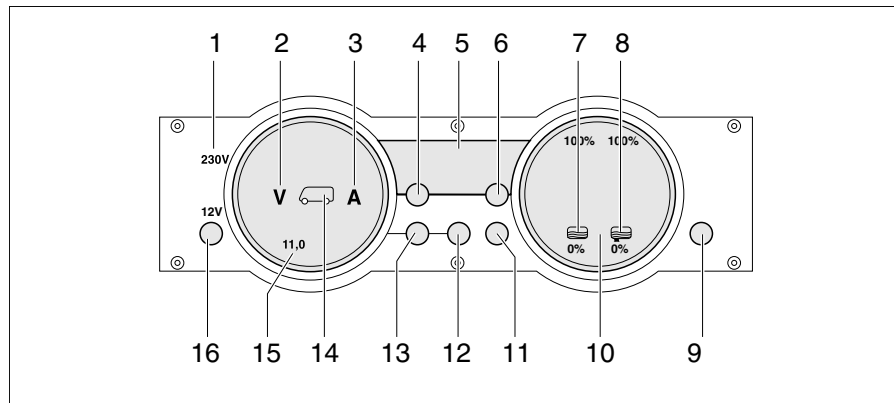

Fig. 260 Panel MP 20-S
The 230 V indicator lamp (Fig. 260,1) lights up whenever line voltage is available at the transformer/rectifier input.
The 12 V main switch (Fig. 260,16) switches the panel and the 12 V power supply of the living area on and off.
- Briefly press the "12 V" button (Fig. 260,16). The 12 V living area power supply is switched on. The "12 V" indicator lights up.
- ▷ If, after switching on, the "11.0" LED of the volt indicator and the "V" volt symbol (Fig. 260,2) in the batteries gauge (Fig. 260,15) flash, the voltage of the living area battery is too low. Charge battery.
- ▷ If, after switching on, the "12 V" indicator, the symbol for the living area battery (Fig. 260,14) and the "V" volt symbol (Fig. 260,2) flash three times, battery separation is activated. Deactivate battery separation.
- Briefly press the "12 V" button (Fig. 260,16). The 12 V living area power supply is switched off. The "12 V" indicator goes out.
- Press button for living area battery (Fig. 260,12) and hold it down for approx. 10 seconds. The "V" volt (Fig. 260,2) and "A" ampere (Fig. 260,3) symbols flash three times. The living area battery is disconnected from the 12 V power supply.
- Press the "12 V" button (Fig. 260,16) and hold it down for approx. 5 seconds. The "V" volt symbol (Fig. 260,2) flashes three times. The living area battery is connected to the 12 V power supply. The indicator lights up after approx. 2 seconds.
- Press the living area battery  button (Fig. 260,12). The "V" volt symbol (Fig. 260,2) lights up. Depending on whether the battery is being charged or discharged, the "A" ampere symbol lights up white or red respectively. The battery voltage and current of the living area battery are displayed using the LEDs in the gauge.
- Press the starter battery  button (Fig. 260,13). The "V" volt symbol (Fig. 260,2) lights up. The battery voltage of the starter battery is displayed using the LEDs in the gauge.
- Press the Tanks  button (Fig. 260,11). The water tank  (Fig. 260,7) and waste water tank  (Fig. 260,8) symbols light up. The fill level of the water tank (left-hand scale) and the waste water tank (right-hand scale) are indicated using the LEDs in the gauge.
The "V" volt symbol (Fig. 260,2) and the "11.0" LED flash as soon as the battery voltage falls below 11 V (measured during operation) and there is the threat of a total discharge.